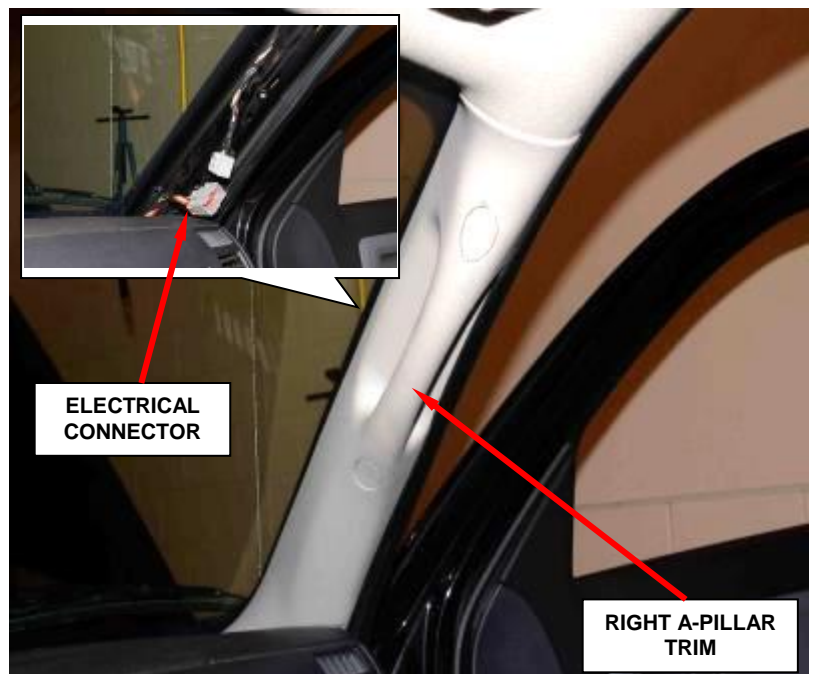

Figure 89 – A-Pillar Trim (Right Side Shown)
28. Remove the right and left side A-pillar trim (Figure 89).
29. Disconnect the right side A-pillar electrical connector (Figure 89).